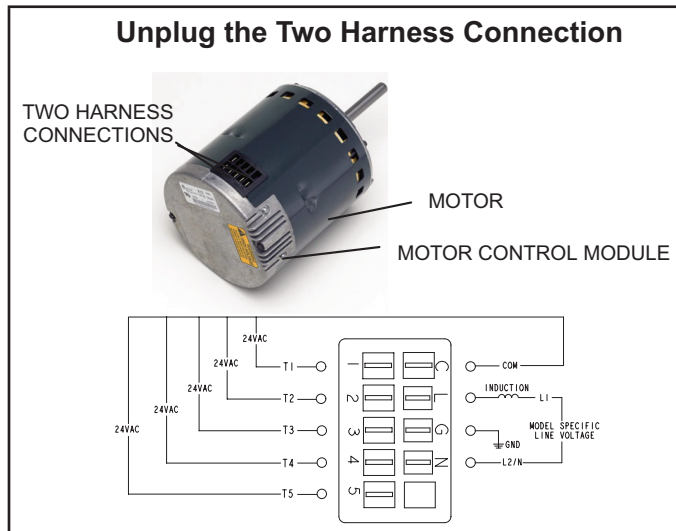

FIGURE 10
- 3 - Unplug the two harnesses from the motor control module. See FIGURE 10.
- 3 - Mount new motor control module to motor using two hex head bolts removed in figure 10. Torque bolts to 22 inch pounds or 1/16th clock wise turn.